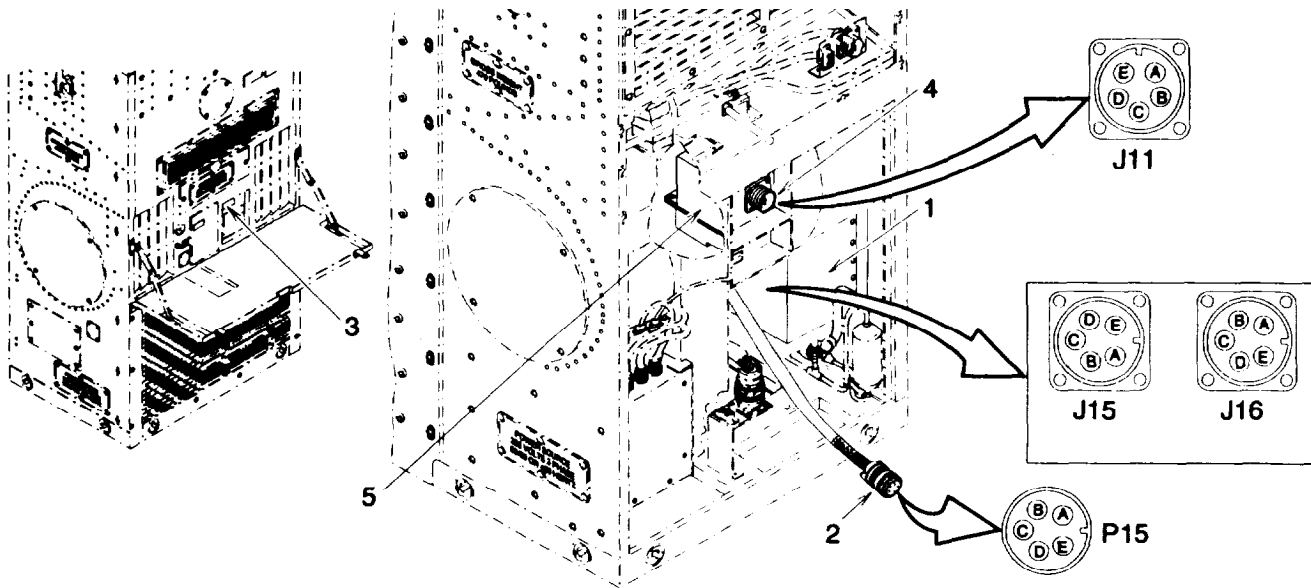

Figure 3-36. EMI Filters
(1) EMI Filter (FL1) Testing.
(a) Tag and disconnect wiring harness connectors from EM1 filter (FL1) (1) Figure 3-36.
(b) Disconnect input power cable connector (2) from EMI filter (FL1) (1) Figure 3-36.